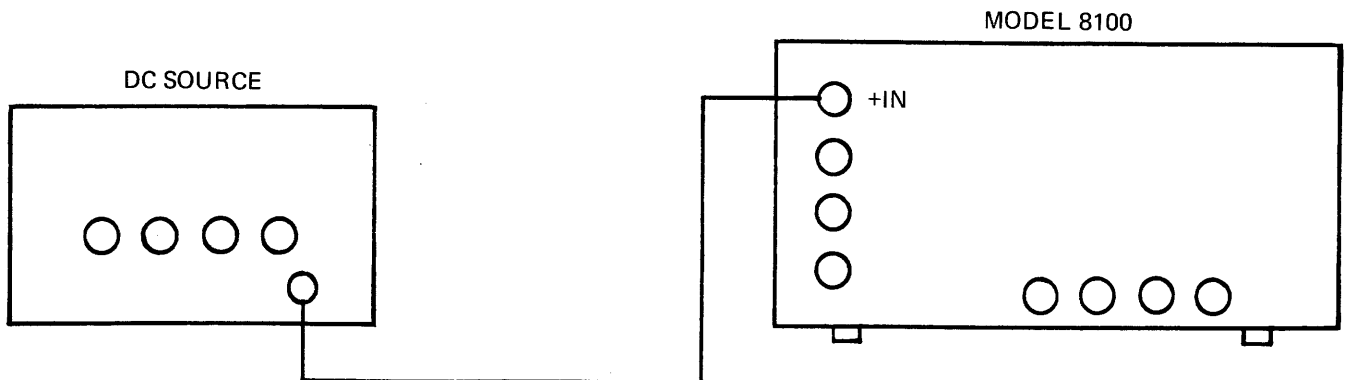

Figure 6.5
9. Connect the DC Source to the input shown in Figure 6.5.